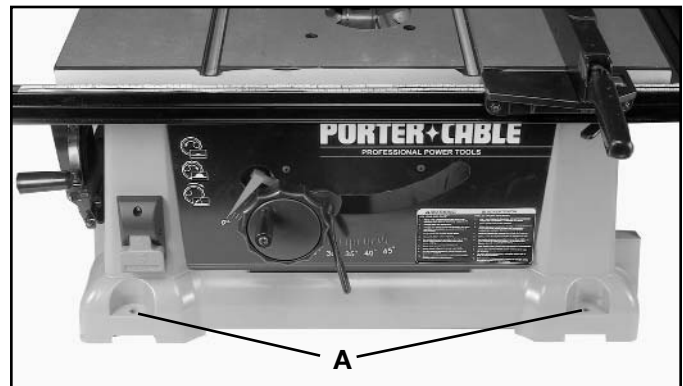

Fig. 14
The saw **MUST** be properly secured to a supporting surface using the four mounting holes, two of which are shown at (A) Fig. 14.